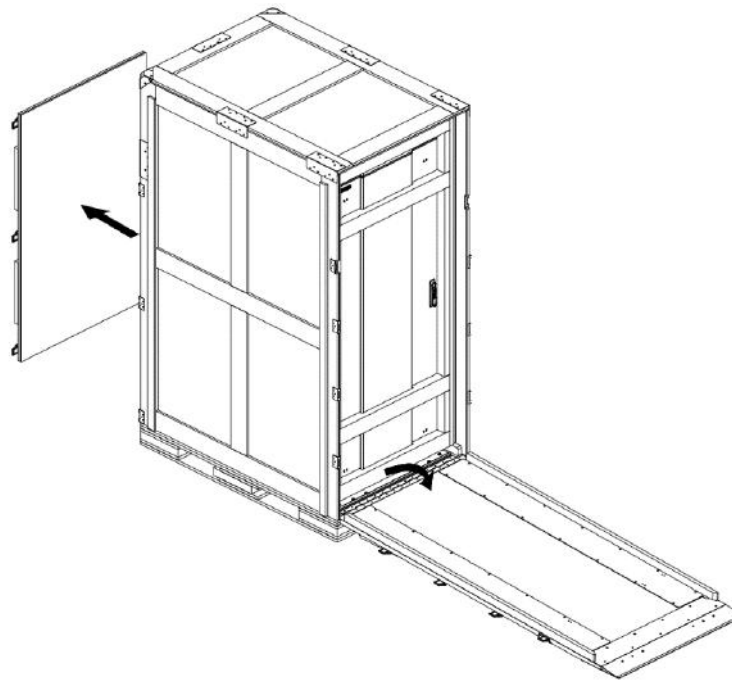

Figure 3-6 Remove the rear and front cover
- a) Remove the rear cover, and put down the front cover to act as a ramp, as shown in Figure 3-6.